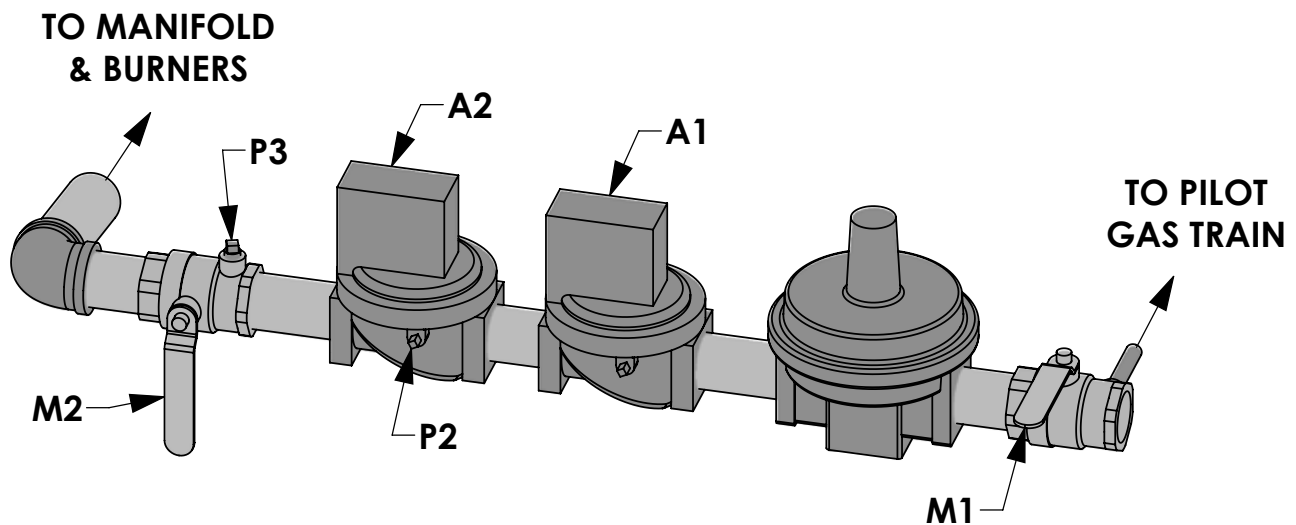

Figure 12.2: Automatic Safety Shutoff Valve Leakage Test
3. See Figure 12.2 for component locations referenced during these tests.